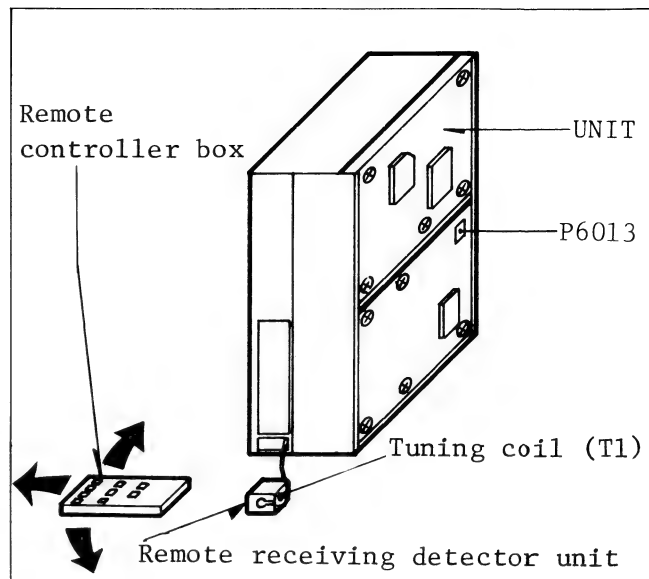

Fig. E41
2. Place the remote controller box and unit as shown in Fig. E41